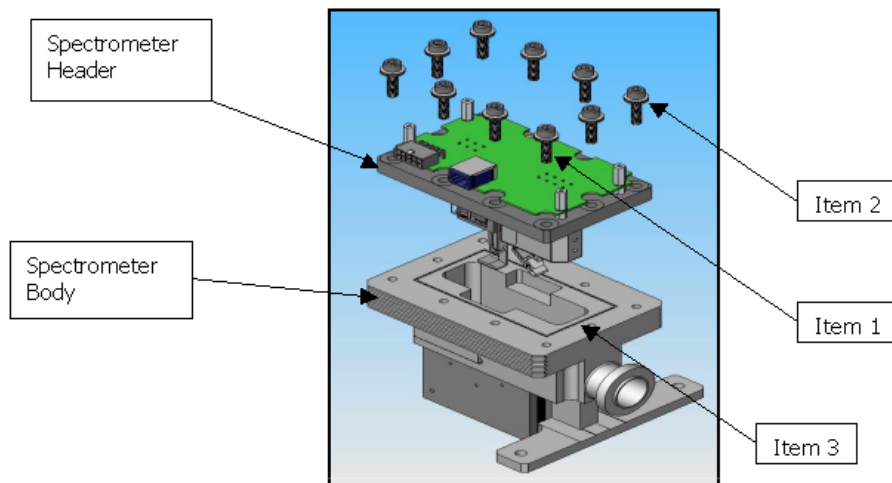

Figure 4: Spectrometer Exploded View
9. Remove the metal gasket (item 3) and discard. Do not scratch the mating surface when removing the gasket. Do not attempt to reuse the gasket (Figure 4: Spectrometer Exploded View).